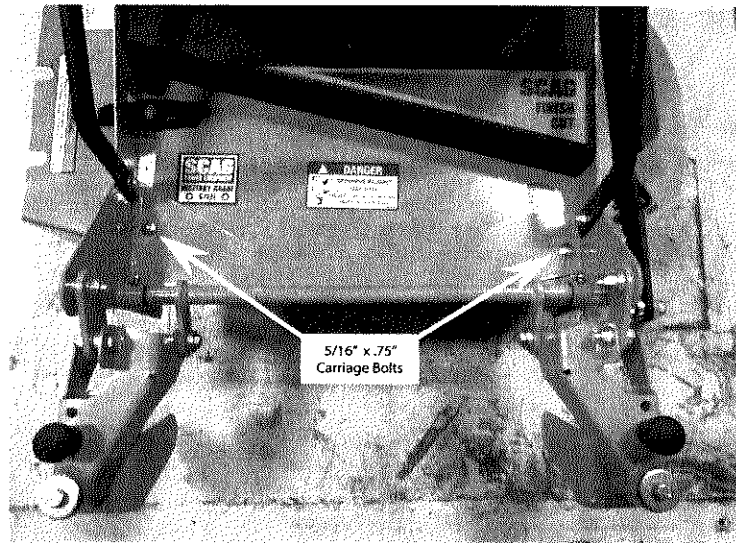

Figure 9
11. Locate the two holes on the top of the swivel caster support weldment. Align the two holes on the top of the swivel caster support weldment with the holes in the cutter deck. Install two 5/16" x .75" carriage bolts through the top of the swivel caster support weldment and then through the cutter deck. See Figure 9. Install two 5/16 -18 flange locknuts on the carriage bolts on the underside of the cutter deck. Do not tighten the hardware at this time.